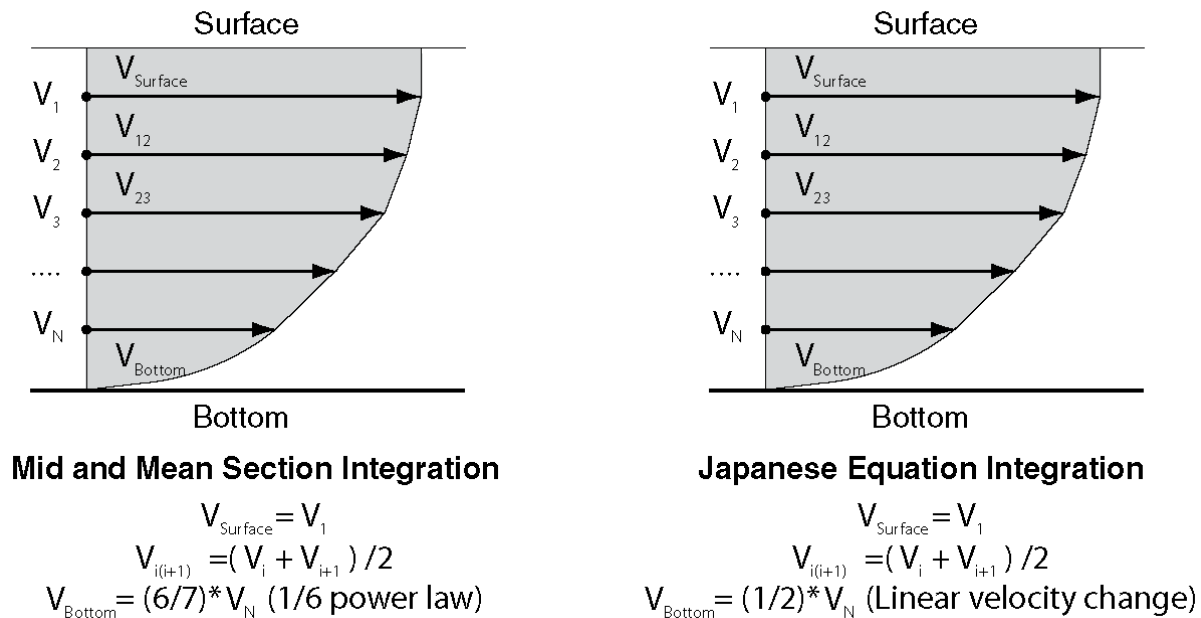

Figure 5:5 - Vertical Velocity Curve
- The mean station velocity (mean velocity in vertical) is calculated by integrating all velocity measurements considering their location as illustrated in Figure 5:5.